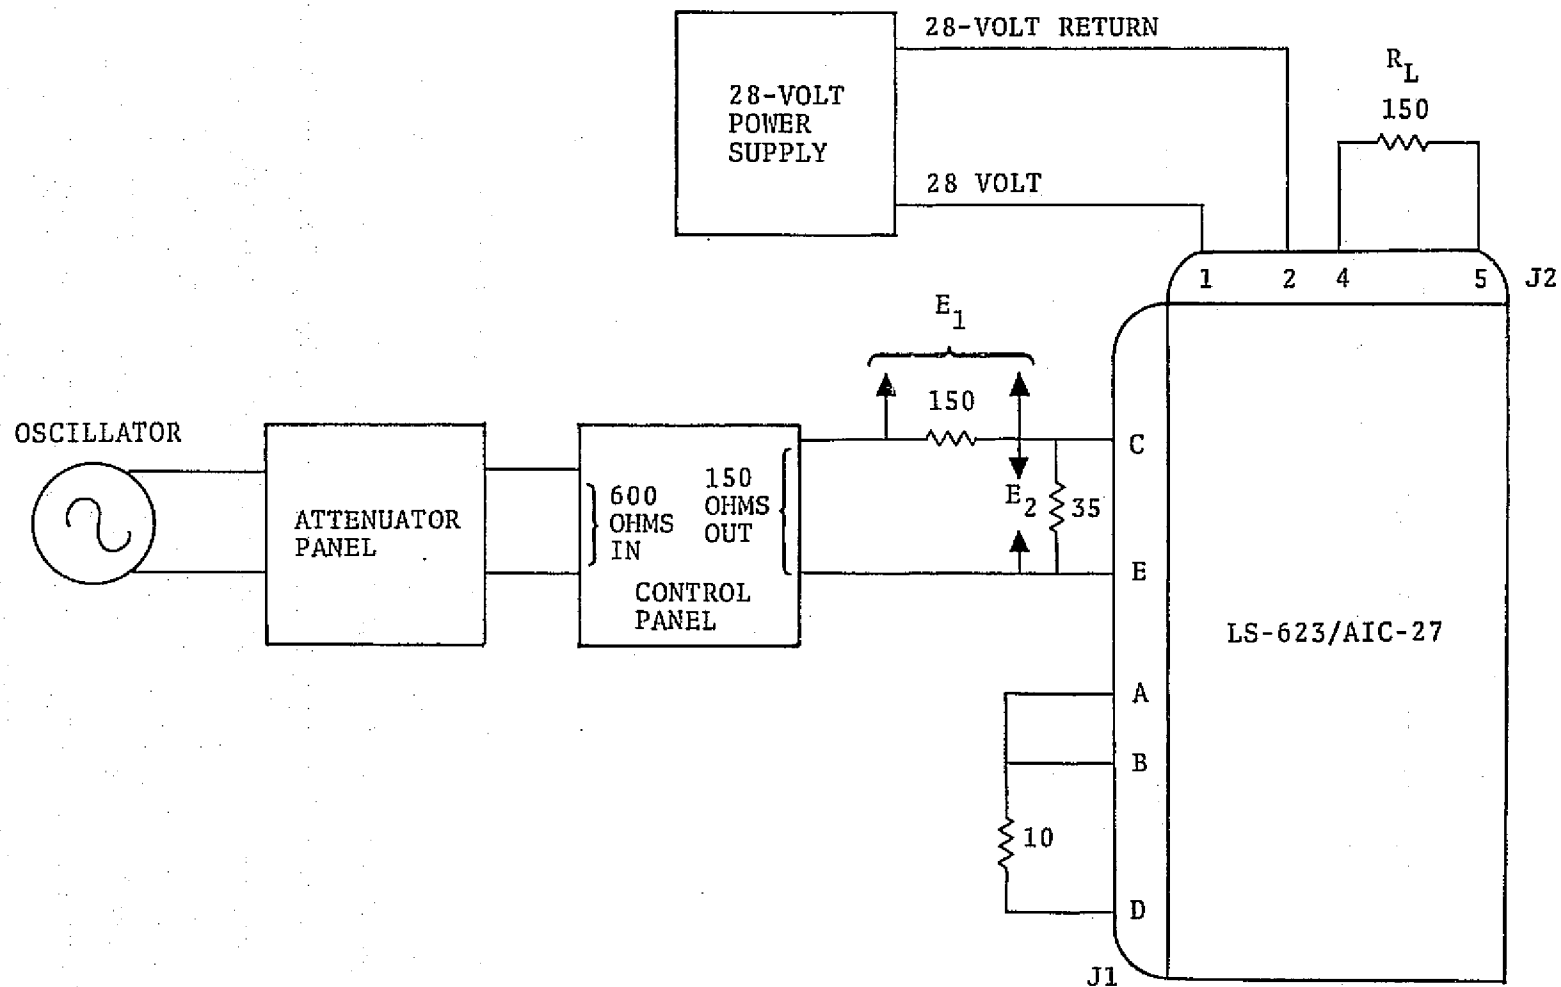

Figure 4-4. - Test setup: sidetone level.
3. Connect the equipment as shown in figure 4-4.